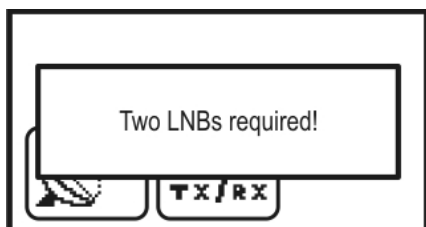

Figure 4.6.8
- a) the LNB profile has been edited for operation with two LNBs. If this condition is not fulfilled, the following message appears on the screen (figure 4.6.8).